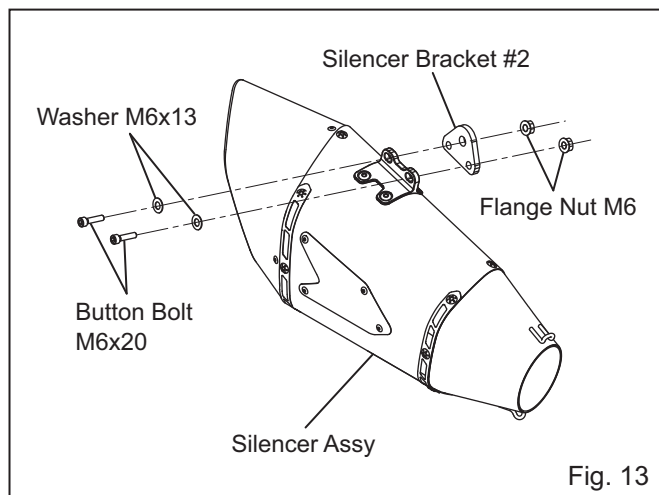

Fig. 13
- 12) Mount Silencer Bracket #2 onto Silencer Assy with 2 of each Button Bolt M6x20, Washer M6x13 and Flange Nut M6 (See Fig. 13) Tighten bolts by hand only at this stage.